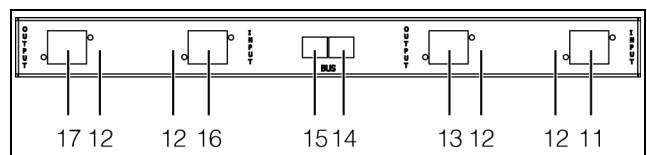

Fig. 3: Connections on the rear
- Connect a cable from the above-mentioned connection cable set to the "Consumer 1" connection (fig. 3, item 13) and at the input of the consumer itself.
- Lock the connection plug to the PSM MID measuring module using the appropriate clamping lever (fig. 3, item 12).
- Also establish the voltage supply using a cable from the above-mentioned connection cable sets to the "Infeed 1" connection (fig. 3, item 11).
- Connect a cable from the above-mentioned connection cable set to the "Consumer 2" connection (fig. 3, item 17) and at the input of the consumer itself.
- Also establish the voltage supply using a cable from the above-mentioned connection cable sets to the "Infeed 2" connection (fig. 3, item 16).
- Connect the PSM MID measuring module using a CAN bus connection cable with a CAN bus interface of the CMC III Processing Unit or of the neighbouring component in the CAN bus (fig. 3, item 14).
- If necessary, connect another component to the second free CAN bus interface of the PSM MID measuring module (fig. 3, item 15), such as a sensor from the range of CMC III accessories.